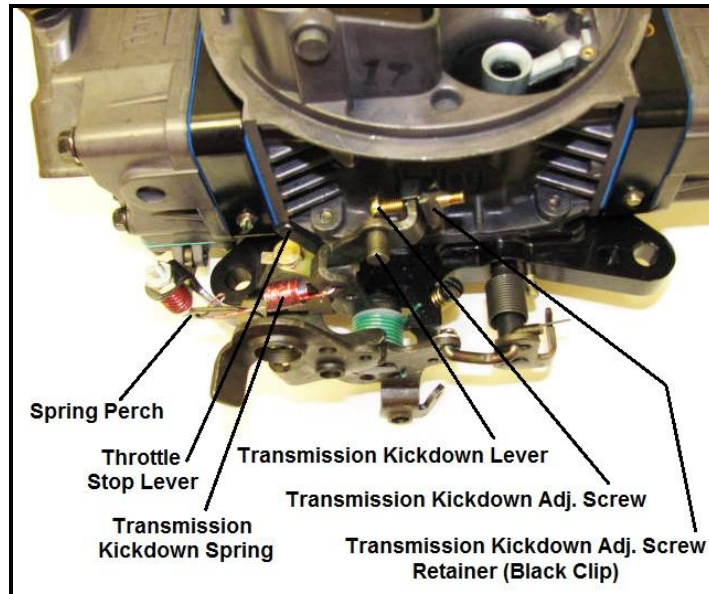
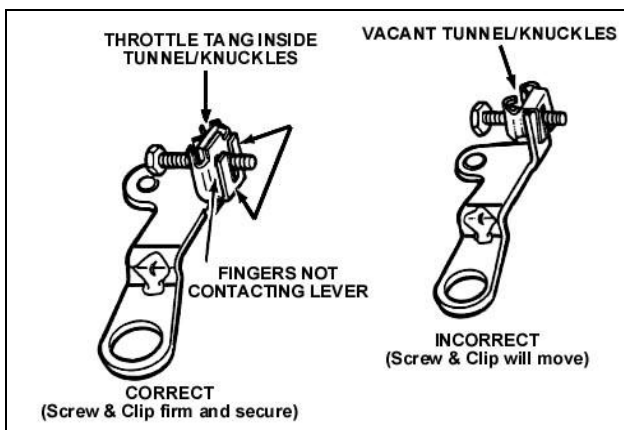

Figure 2—Ford applications
Figure 3—Ford applications
2. Insert the transmission kickdown screw with the black retaining clip on the transmission kickdown lever (**Figure 2**). This assembly must be installed according to the detailed drawing (**Figure 3**).
4. Install the transmission kickdown spring between the transmission kickdown lever and spring perch on the solenoid/dashpot bracket (Figure 2).